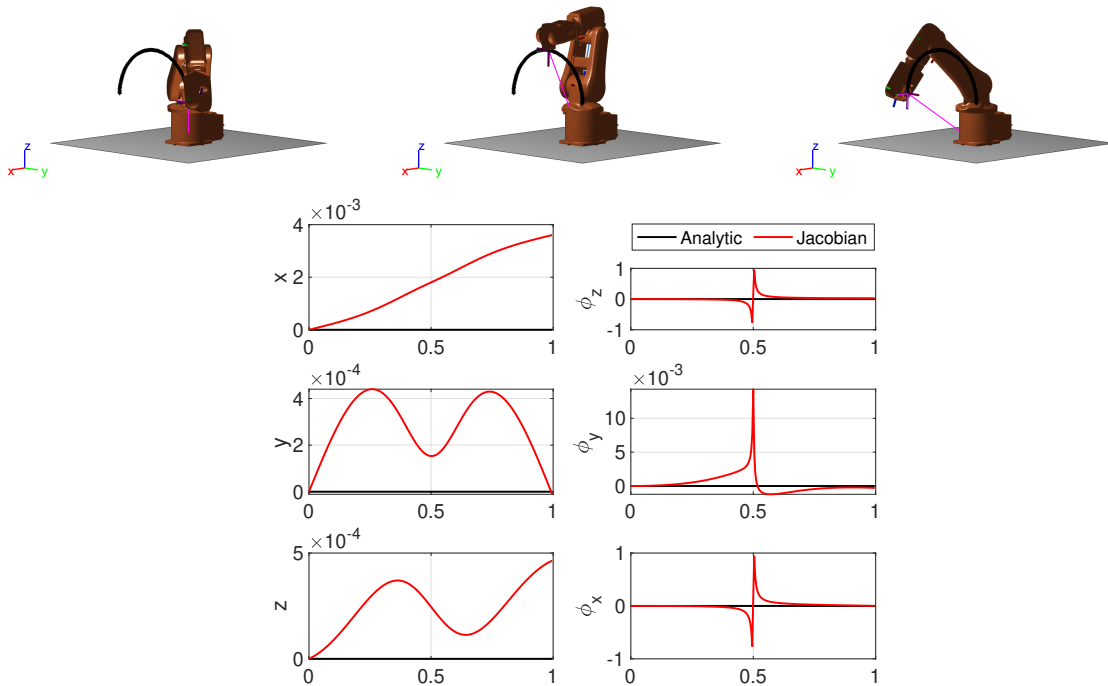

Figure 4: Snapshots from the IK sequence and error for each component for both methods.
4. Find the Jacobian matrix  $J(\mathbf{q})$  of the 2R planar robot in Fig. 4 through direct differentiation.
Implement the above, using `geometricJacobian` and starting with  $\mathbf{q}_0$  from one of the *IK* solvers. Generate a subplot to compare the end-effector pose from the actual desired trajectory, and the two IK methods implemented by calculating the error for each component as shown in Fig. 4. You can decompose the end-effector orientation using `rotm2eul` to compare. Jacobian animation: `hw3-ik-jaco.mp4`.